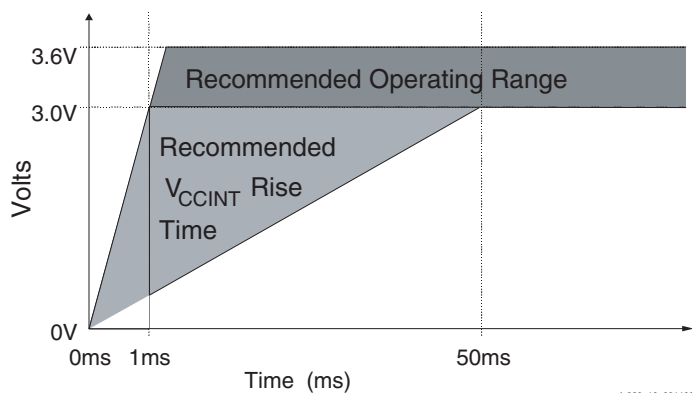

Figure 8: V_{CCINT} Power-Up Requirements
On power up, $\overline{\text{OE/RESET}}$ is held low until the XC18V00 is active (1 ms). $\overline{\text{OE/RESET}}$ is connected to an external resistor to pull $\overline{\text{OE/RESET}}$ HIGH releasing the FPGA $\overline{\text{INIT}}$ and allowing configuration to begin. If the power drops below 2.0V, the PROM resets. $\overline{\text{OE/RESET}}$ polarity is *not* programmable. See Figure 8 for power-up requirements.
- At power up, the device requires the V_{CCINT} power supply to monotonically rise from 0V to nominal voltage within the specified V_{CCINT} rise time. If the power supply cannot meet this requirement, then the device might not perform power-on-reset properly. See Figure 8.